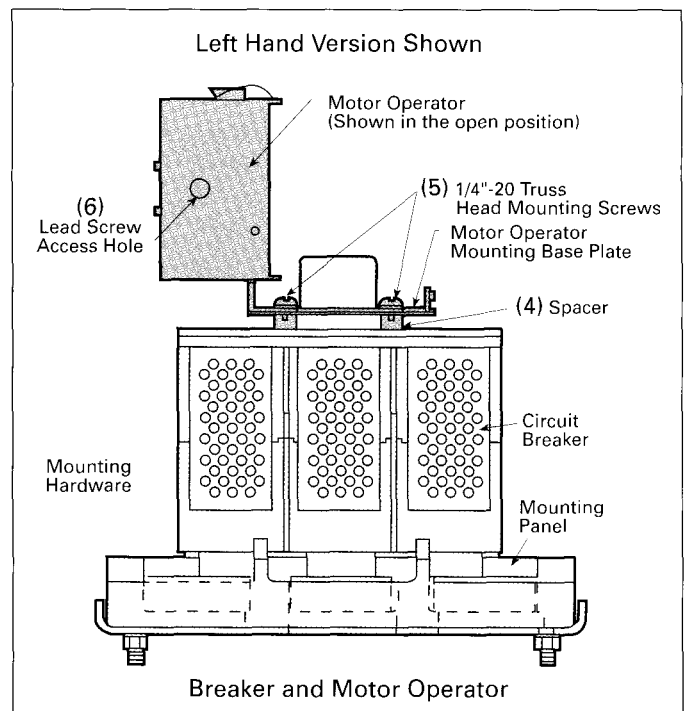

Figure 2
- E. Open the motor operator cover and attach the motor operator to the circuit breaker using the spacers (4) and screws (5) provided (Figure 2).
- F. With the circuit breaker handle in the OFF position, align the motor operator mechanism rollers (indicator to be in OFF position) and the circuit breaker handle by rotating the lead screw (6) with a screwdriver. The lead screw access hole is at the bottom of the motor operator (Figure 2).